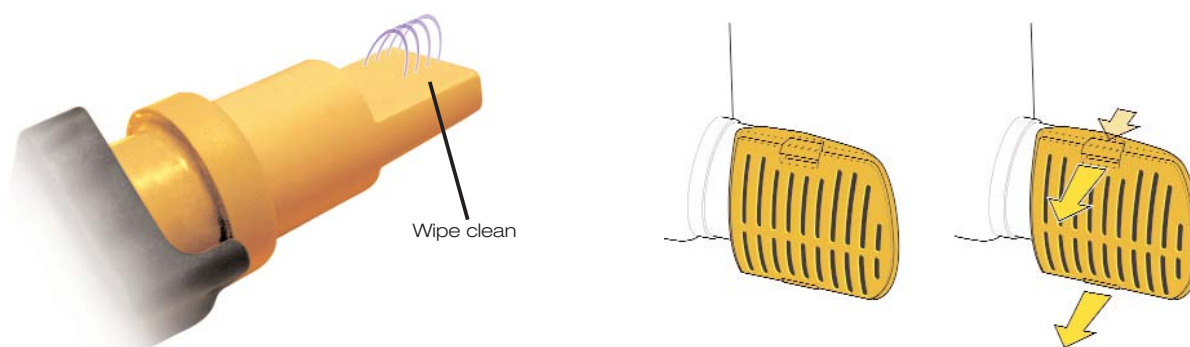

Figure 5
Step 1: Set the 3 way switch to Automatic (Figure 3 Supersub Smart 650), the pump will run when necessary. Place fingers over sensor area to check pump is activated, remove fingers and wait for the pump to stop (15 seconds). Check pump regularly to ensure no clogging occurs (Figure 5).
| Figure 5. | Maintenance |